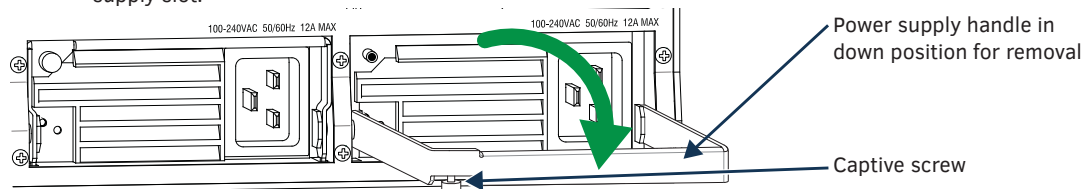

FIG. 56 Loosen captive screw; flip handle down; pull power supply out of enclosure
4. Loosen the captive screw on the replacement power supply and flip the handle down (FIG. 56). Slowly slide the power supply into the empty slot.